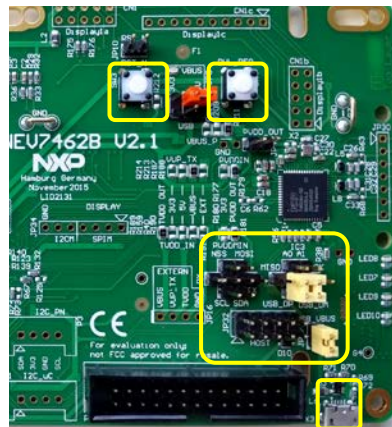

Fig 67. PN7462AU as USB mass storage device
1. Ensure that "HIF selection" is USB, see Fig 67